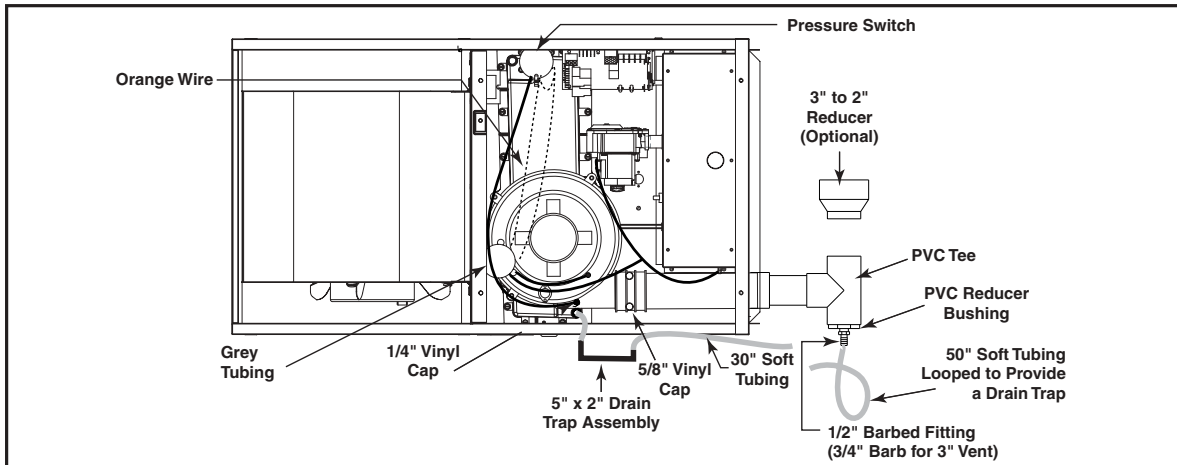

Figure 3. 90+ Upflow Converted for Horizontal Installation (Horizontal Right)
**NOTE: When installing a \*RC120 furnace, it is required to use a 3" vent kit (Part No. 904080).** In order to ensure complete drainage of all condensate, an additional "T" shaped vent drain assembly must be installed in-line with the vent piping (see Figures 3 and 4). The "Tee" shaped vent drain assembly consists of a 2" PVC with a 2" to 1/2" PVC reducer bushing glued into the tee. See Figures 3 and 4 for your installation in order to glue the tee. Next glue the 1/2" barbed fitting into the reducer bushing. Ensure that all glued joints are tight and sealed. A 50" piece of soft tubing is supplied with the horizontal installation kit. Assemble this piece to the barb at the bottom of the "T" assembly. **NOTE:** Ensure a tight fit in order to avoid any leakage of the condensate. Loop the tubing in a circle in order to create a trap and secure. The drain tubing can then be routed out the same drain as the furnace drainage system.
Follow the same instructions for the installation of the furnace and maximum vent pipe lengths as given in the installation instructions provided with the furnace. **NOTE:** A 3" to 2" reducer is also supplied with the horizontal installation kit, if 3" piping is preferred coming off the "T" shaped vent drain assembly. If using alternate configuration (shown in Figures 3 and 4), reducer must be installed above drain assembly to ensure drainage.